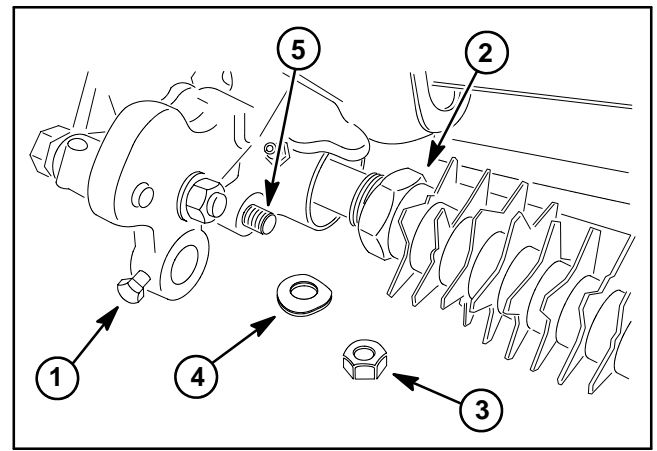

Figure 8
3. Remove groomer drive cover (item 2) and groomer drive belt (item 3) from groomer drive (see Groomer Belt Replacement in this section).
4. Loosen cap screws (item 10) that secure front roller shaft to groomer arms.
5. Remove lock nut and spring washer that secure RH groomer arm lift rod to RH drive plate assembly (Fig. 8).
6. Remove HOC nut (item 21), HOC washer (item 16) and plow bolt (item 22) that secure RH groomer arm assembly to RH support plate assembly. Do not change height-of-cut screw adjustment. Remove RH groomer arm assembly from cutting unit.